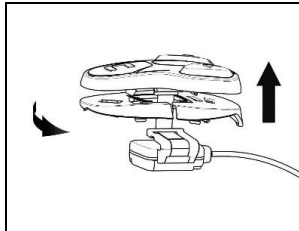

Fig. 19
- Rotate the keypad support so as to position it like in Fig. 19, then hook it to the keypad.